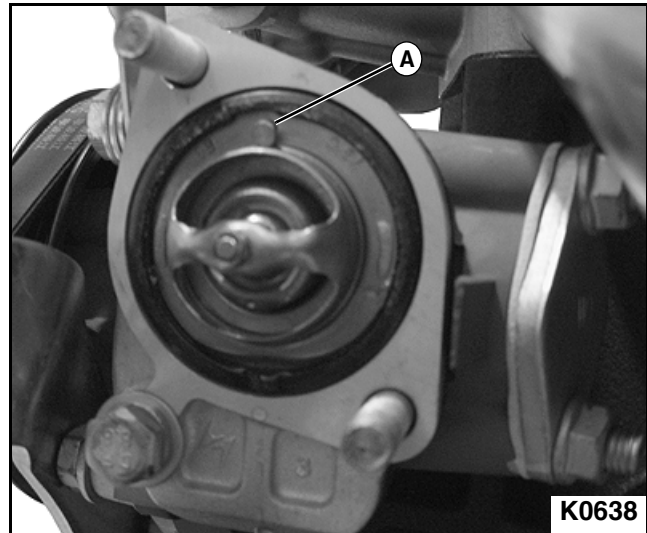

Figure 3-12
Thermostat **MUST** be installed “spring” end first. Air bleed (A) must be positioned at approximately the ten to eleven o’clock position. **See Figure 3-12.**
1. Install thermostat into water pump housing. **See Figure 3-12.**